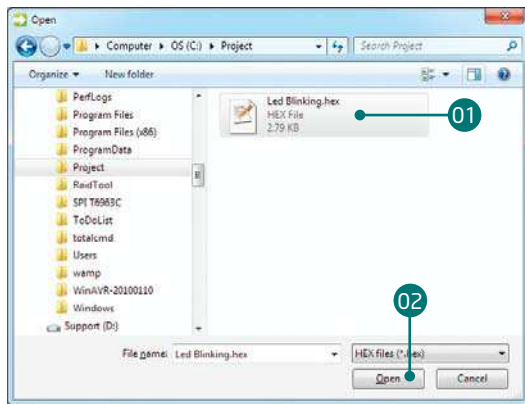

Figure 3-7: Locating and Selecting .hex file
- 01 Click the **"Browse for HEX"** button and from a pop-up window (Figure 3.7) choose .HEX file which will be uploaded to MCU memory